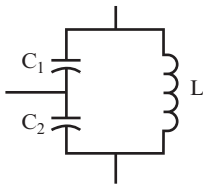

FIGURE 9.36
5. Choose a capacitor C_2 that is between 3 and 10 times the value of C_1 . Figure 9.36 shows the two capacitors and the coil connected in a parallel circuit, with the two capacitors acting as a voltage divider.